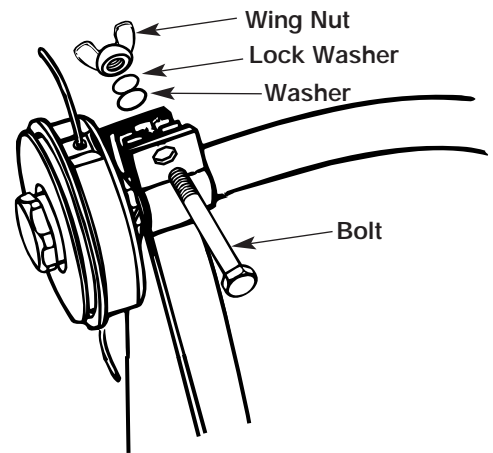

Fig. 3
2. Insert the bolt through the shield, bracket, washer and lock washer tighten with the wing nut (Fig. 3).